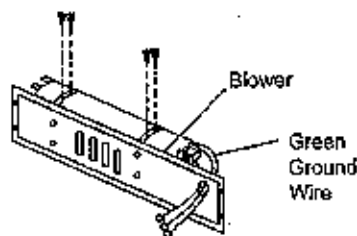

Figure 11-F Attaching Bracket To Blower
- Attach the two brackets to blower housing using four white screws provided in blower kit (2 for each bracket) (see Figure 11-F). Tighten screws securely. Then guide the green grounding means wire and download of motor through the rubber capped hole.